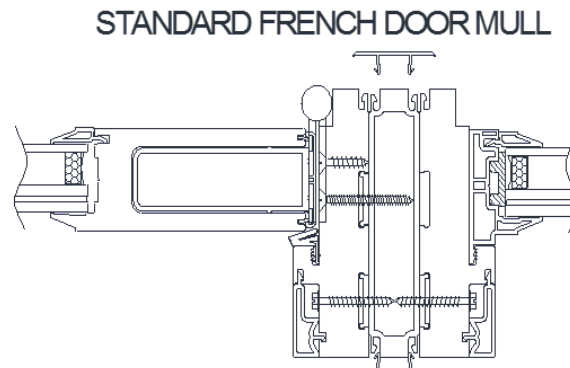

Figure 17
31. Install French Door mullion covers (Item 12) on both interior and exterior sides of the mullion (Figure 17).